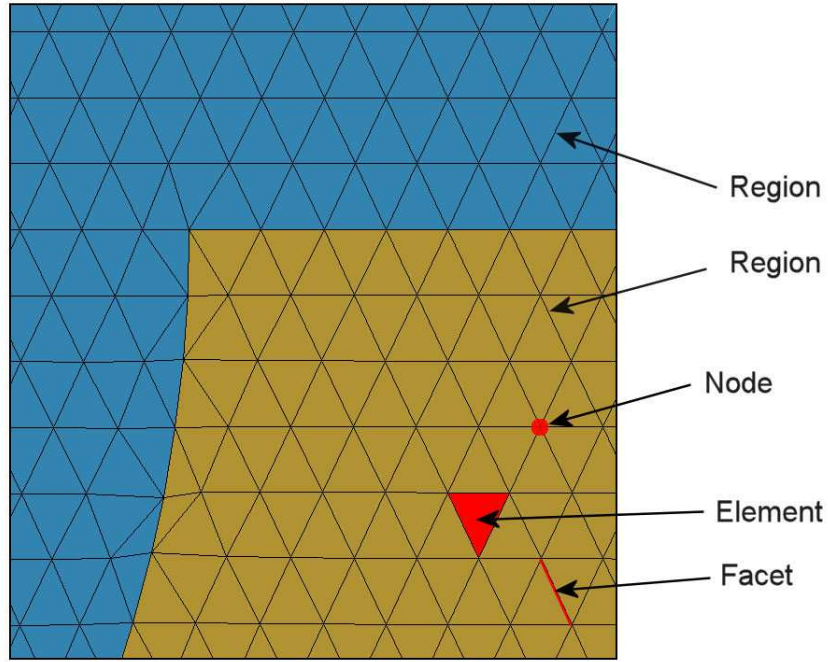

Figure 1: Conformal triangular mesh – definition of terms.
The basis of the finite-element approach is to divide the full solution volume into a number of small volumes, or *elements*. Here, the term *small* indicates that element dimensions are much less than the scale length for variations of field quantities. The division of the volume is called the *computational mesh*. Figure 1 shows the type of mesh used for the two dimensional solutions of **TDiff**. The figure defines three terms that will be used throughout this manual:
The elements in Fig. 1 have triangular cross-sections. In a planar solution, the cross-section lies in the x - y plane and the elements extend an infinite distance in the z direction. In a cylindrical solution, an element is a figure of revolution about the axis with a triangular cross-section in the z - r plane.
The mesh in Fig. 1 has the important property of *conformality*. The term means that the triangles have been specially shaped to conform to the boundaries between materials (*regions*). As a result, each element has an unambiguous material identity. The finite-element method is based on two approximations: 1) material properties in an element are uniform and 2) elements are small enough so that the field quantities can be approximated by simple interpolation functions. With these assumptions, the governing differential equation can be integrated over elements surrounding a node to yield a linear equation. This equation relates the field quantity at the node to those at the surrounding nodes. The coupled set has one linear equation for each
2. **Mesh** analyzes the boundary specifications and automatically generates a set of conformal triangles such as those of Fig. 1. The program creates an output file that lists the locations of nodes and the identities of elements.